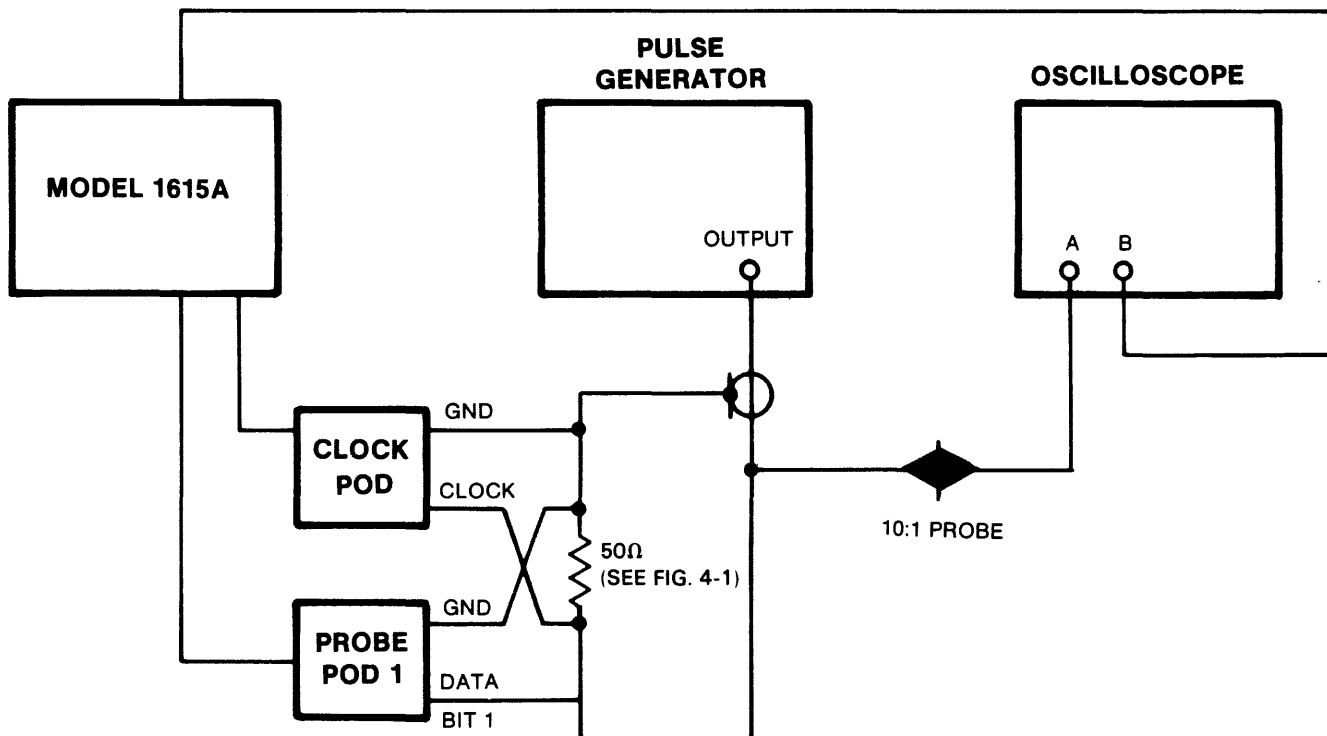

Figure 4-12 Trigger/Trace Point Outputs Test Setup
- a. Connect test equipment to 1615A as shown in figure 4-12.